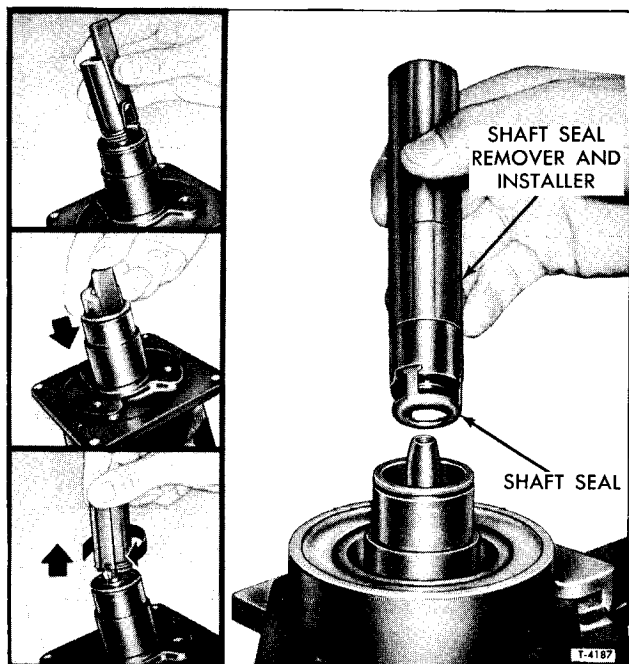

Figure 46—Installing Seal and O-Ring
1. Engage seal onto the locking tangs of tool (J-9392) (figure 46) and with shaft seal protector tool (J-21303) installed over the end of the shaft, carefully insert the seal and tool over the end of the shaft. Turn seal to engage the flat on the shaft, then remove the tool.
To install the O-ring, place O-ring on tool as shown in Figure 46. Insert the tool fully into the front head bore, press down the slider, twist entire tool to seat O-ring and then remove tool.